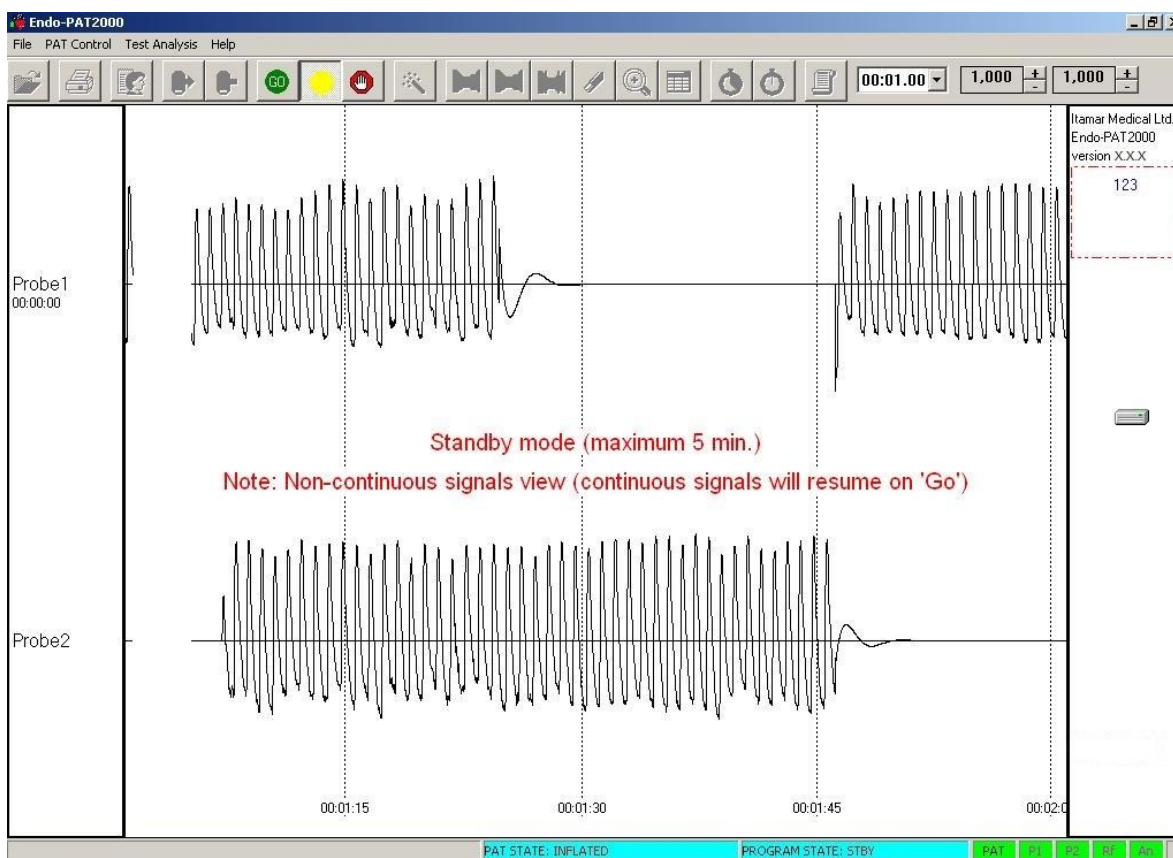

Figure 36 - StandBy mode
1. Click the Stand By  icon, from the main screen. The system will display the signals from the two PAT™ channels, allowing the user to check the signals and adjust the signal gain/scaling to properly visualize the PAT™ signals without saturating the screen. It is recommended to view the signal in a 1 minute screen (00:01:00). Signals from both PAT™ channels (Probe 1 and Probe 2) appear in the Trace Window (as well as the trend channels, if these are selected in the system setup). Visually inspect the PAT™ signal (see Figure 36) for at least 1 minute. If the signal seems noisy, make sure that the probes are not in touch with anything at all. As the system equilibrates, having a few leaks in the first few minutes is normal. If you encounter more than 2-3 leaks per minute, wait in Stand By mode for a few more minutes, until at least a minute passed since the last leak, or refer to the troubleshooting section (section 9).
<p style="text-align: center;">NOTE</p> <p>While working in the Stand By mode, data is not recorded, and therefore it is impossible to review or save the study.</p> <p>A notification about this mode (Figure 36) is displayed, and will disappear when the  button is clicked.</p>